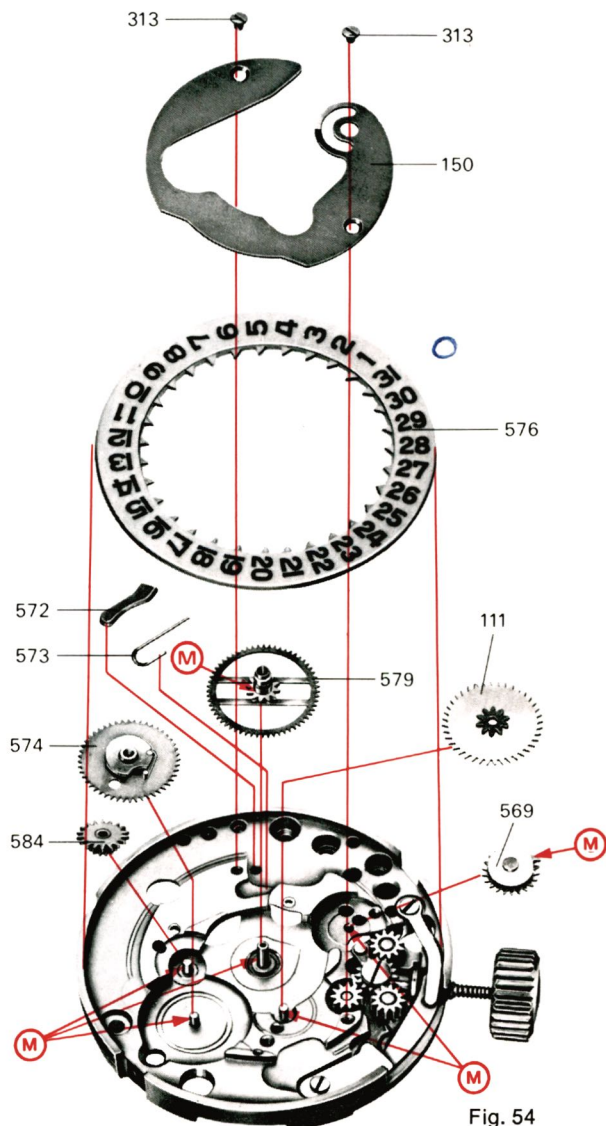

Fig. 54
- A. *Remove:* intermediate date wheel (584), 2 screws (313), setting cover (150), date indicator detent spring (573), date indicator detent (572), date ring (576), date corrector wheel (569), minute wheel (111), cannon pinion and its wheel (579), date trip wheel (574), setting wheel for minute wheel (215).
- A. *Lubricate:* (M) cannon pinion and its wheel (579), the center tube setting wheel for minute wheel (215), the post of the date jumper wheel, the post of the date corrector wheel.
- B. *Install:* date trip wheel (574), cannon pinion and wheel (579), minute wheel (111), setting wheel for minute wheel (215), date corrector wheel (569), date ring (576), detent spring (573), date detent (572).
Note: Lightly lubricate the finger of date trip wheel (574). Install: setting cover (150), 2 screws (313), intermediate date wheel (584). (fig. 54).